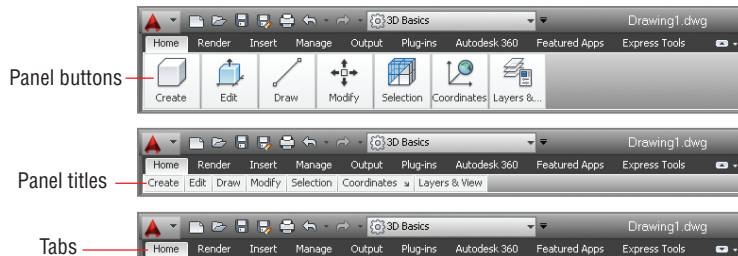

FIGURE 1.10 Ribbon modes
2. Click the Minimize Ribbon button, and observe that the full ribbon changes to display tabs and panel buttons (see Figure 1.10). Hover the cursor over the panel buttons. The buttons expand to reveal all the tools shown on the full ribbon.